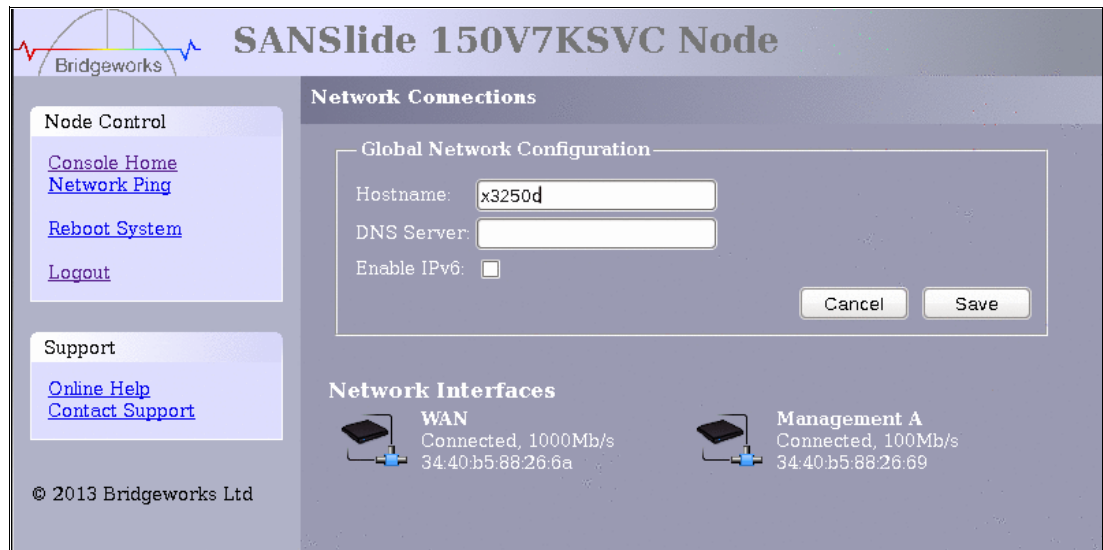

Figure 2-6 Network connection
2. In the Network Connections panel (Figure 2-6), enter the host name. For example, enter x3250d for this SANSlide 150 node. Click **Save**.